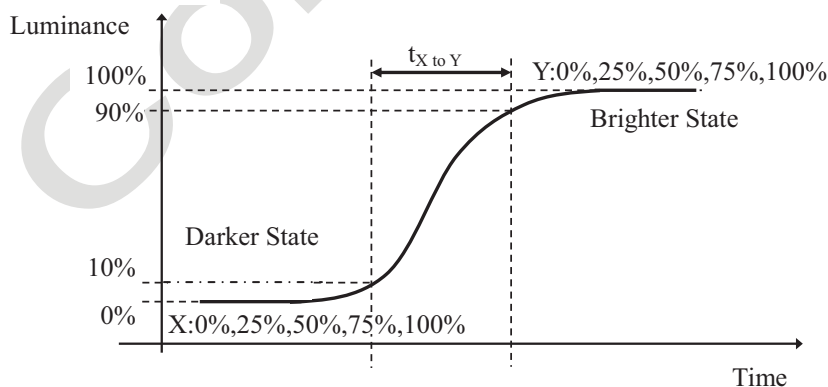

Fig. 7.4 The definition of  $t_{X \text{ to } Y}$
(3) Response time  $T_L$  is defined as the average transition time in the response time matrix. The table below is the response time matrix in which each element  $t_{X \text{ to } Y}$  is the transition time from luminance ratio X to Y. X and Y are two different luminance ratios among 0%, 25%, 50%, 75%, and 100% luminance. The transition time  $t_{X \text{ to } Y}$  is defined as the time taken from 10% to 90% of the luminance difference between X and Y ( $X < Y$ ) as illustrated in Fig.7.4. When  $X > Y$ , the definition of  $t_{X \text{ to } Y}$  is the time taken from 90% to 10% of the luminance difference between X and Y. The response time is optimized on refresh rate  $F_r = 60\text{Hz}$ .